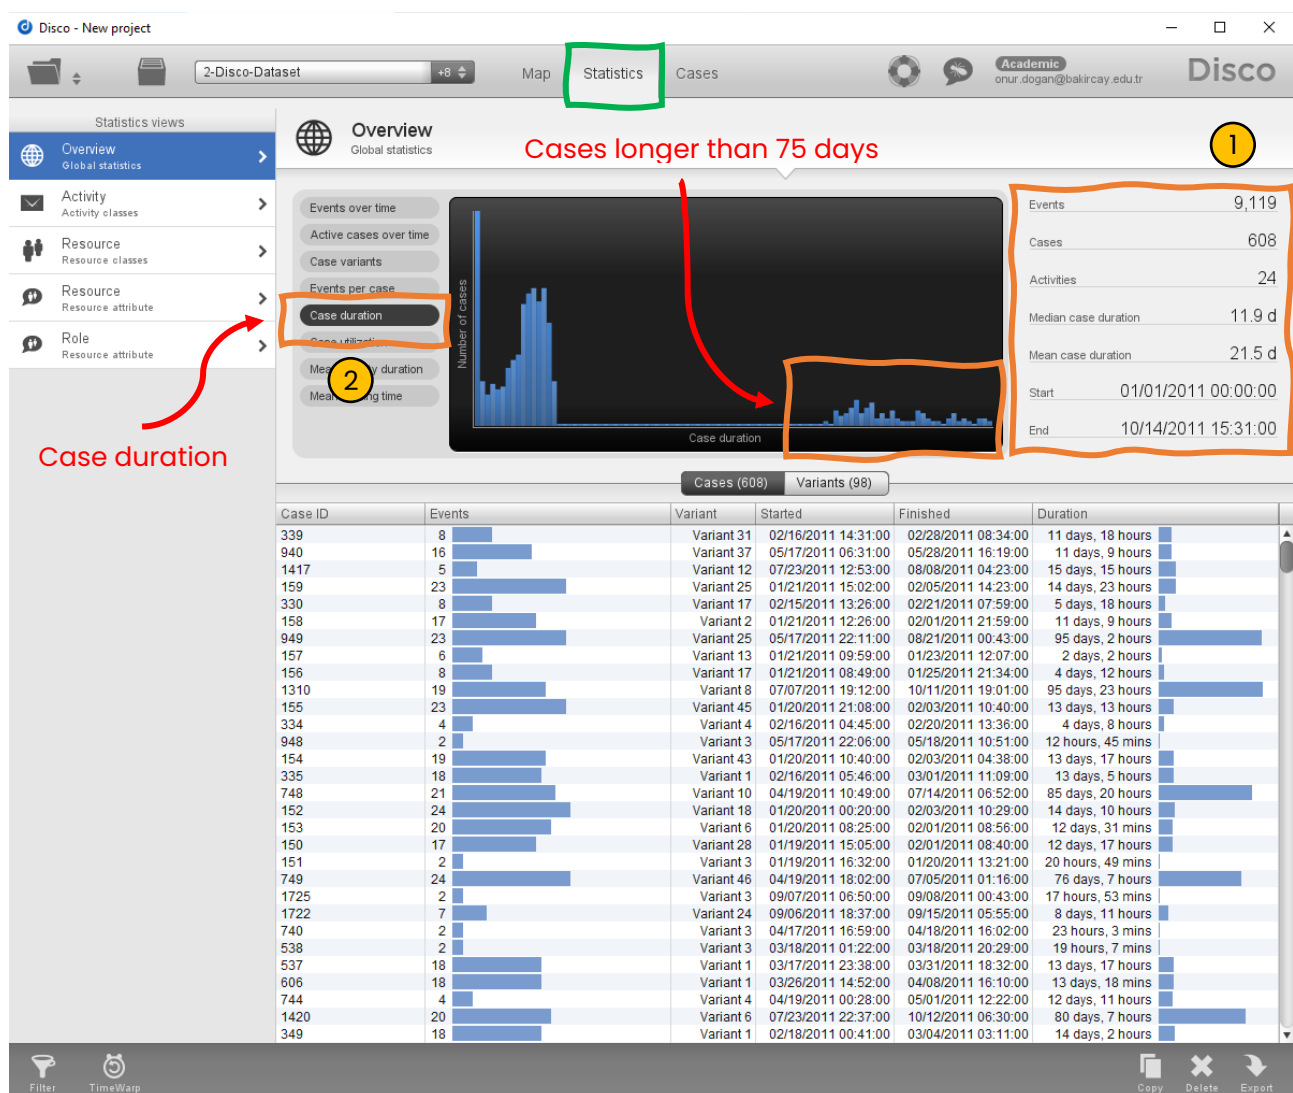

Figure 5. Process statistics
- 2- Assume now to have received complaints about the throughput time for this process. So, to look at the performance, you can change from the "Events over time" to the "Case duration" statistics next to the chart (see Figure 5). The case duration shows the time from the very beginning to the very end of the case. When you move the mouse over the histogram, you can see that most cases are completed within up to 18 days in total. However, quite a few cases take much longer than 75 days to 110 days.